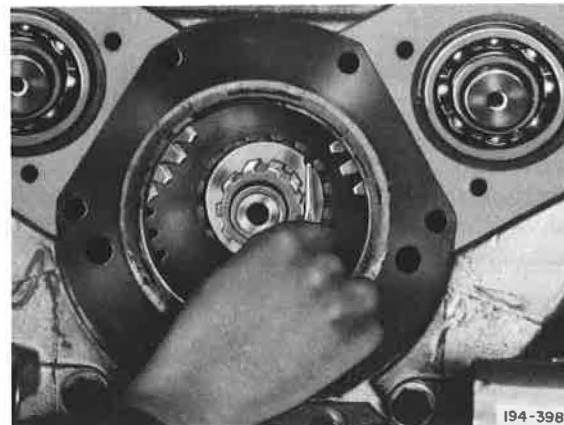

Figure 5-202. Aligning Fourth Speed Gear Thrust Washer Internal Teeth with Mainshaft External Teeth
17. Using a small tool, move thrust washer one tooth so that the inner teeth align with mainshaft splines. See Figure 5-202.